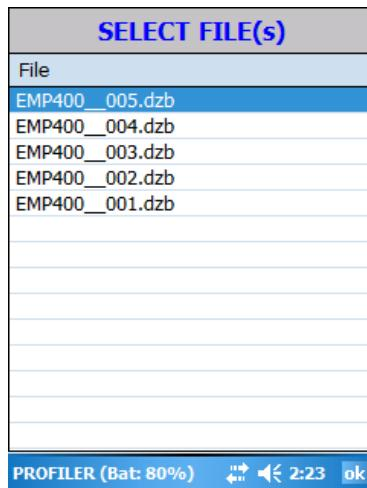

Figure 70: Select File(s) menu.
3. The user can then select the desired file(s). Tap **File** and select the desired file name (Figure 70) to Review the file.